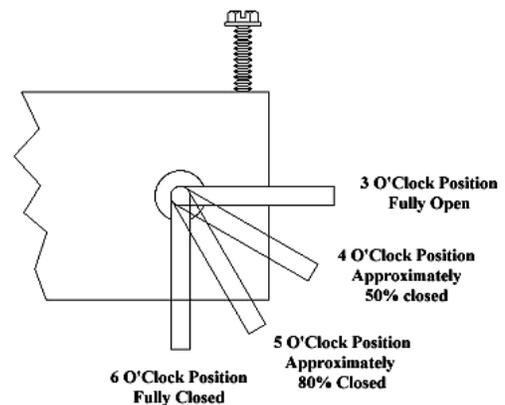

Figure 5
The purpose of this damper is to adjust combustion airflow to match the characteristic of each specific air inlet and chimney configuration. There is a setscrew in the damper (*shown in Figure 5*) and the damper has been preset at the factory. This setting will most likely work for 90% of the most common installations. Long horizontal runs might need the damper opened. Tall vertical runs might need the damper to be closed a little, etc. To adjust the damper, use the setscrew to make the adjustments. To make an adjustment turn the screw  $\frac{1}{2}$  turn clockwise to open the damper or  $\frac{1}{2}$  turn counter clockwise to close the damper. Remember to use the damper handle to bring the damper up to the screw. The damper will not close by itself. After making an adjustment wait at least 15 minutes to see how the burn pot reacts to the change. **Adjusting the damper during the break in period is very**
- d. Use the “scraper” provided to move the burning pellets to one side of the grate, leaving the ash in the bottom of the grate. (See Fig 5 & 6)